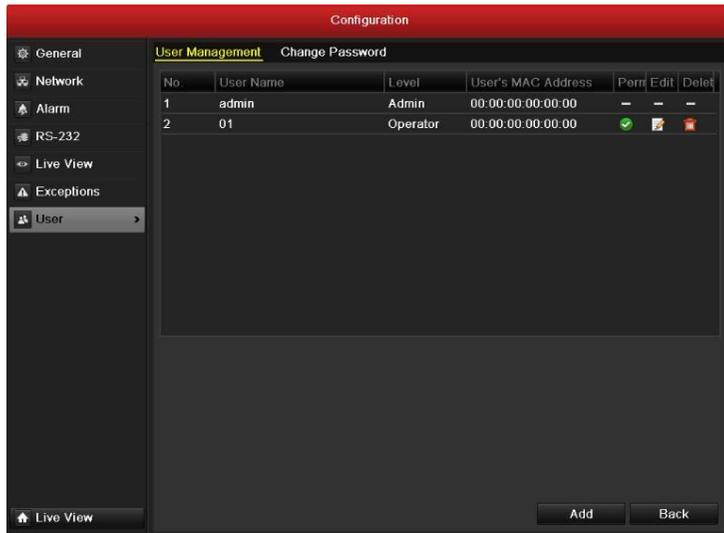

Figure 14.20 Added User Listed in User Management Interface
4. Click the **OK** button to save the settings and go back to the User Management interface. The added new user will be displayed on the list, as shown in Figure 14.20.